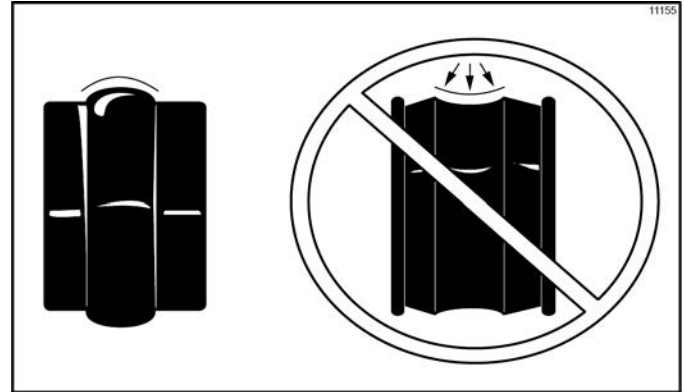

Figure 6-2
**Note:** To ensure that the mix does not leak out of the back of the freezing cylinder, the middle section of the boot seal should be convex or extend from the seal. If the middle section of the boot seal is concave or extending into the middle of the seal, turn the seal inside out. (See Figure 6-2.)